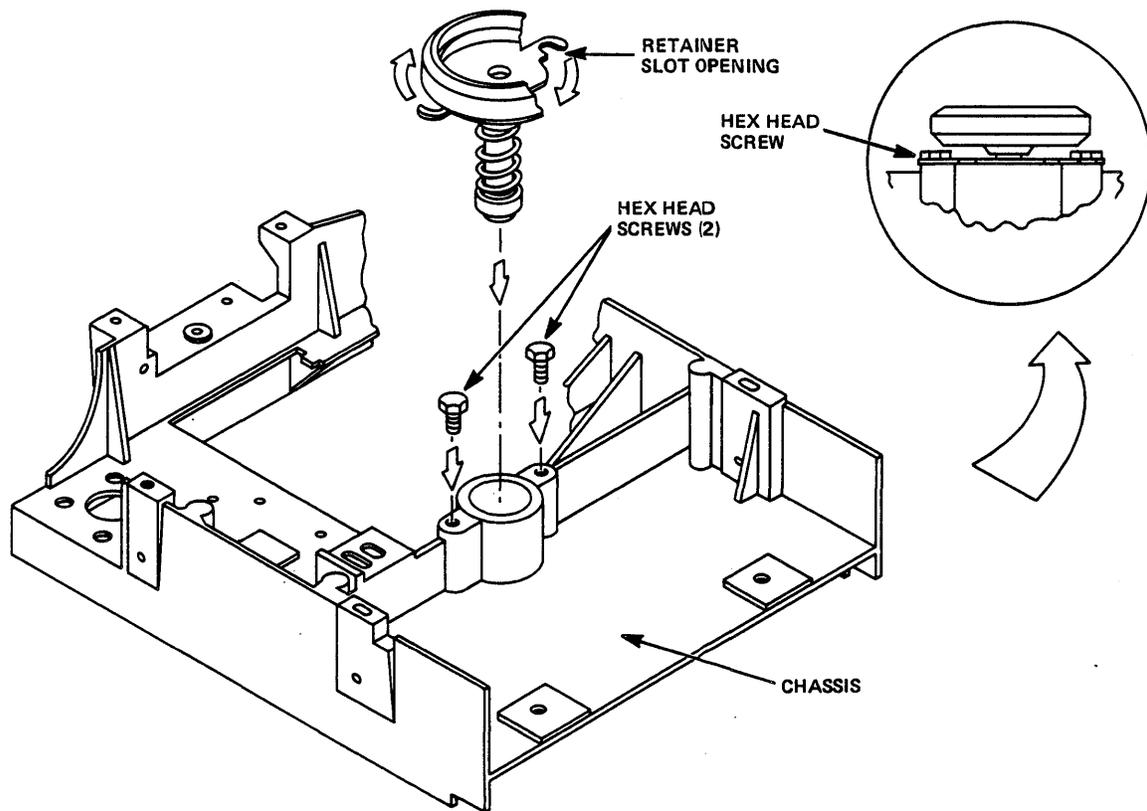

Figure 5-31
5.15.7 Using one-quarter (1/4) inch wrench, loosen the two (2) hex head screws that attach the Spindle Assembly to the top of the chassis (see Figure 5-31).
5.15.8 Rotate the retainer counterclockwise until its slot openings no longer are held by the two (2) hex head screws (see Figure 5-31).
5.15.10 Insert the new Spindle Assembly carefully into its mounting hole at the top of the chassis (see Figure 5-31).
- 5.15.12 Using a one-quarter ( $\frac{1}{4}$ ) inch wrench, tighten the two (2) hex head screws that attach the bearing retainer to the chassis (see Figure 5-31).